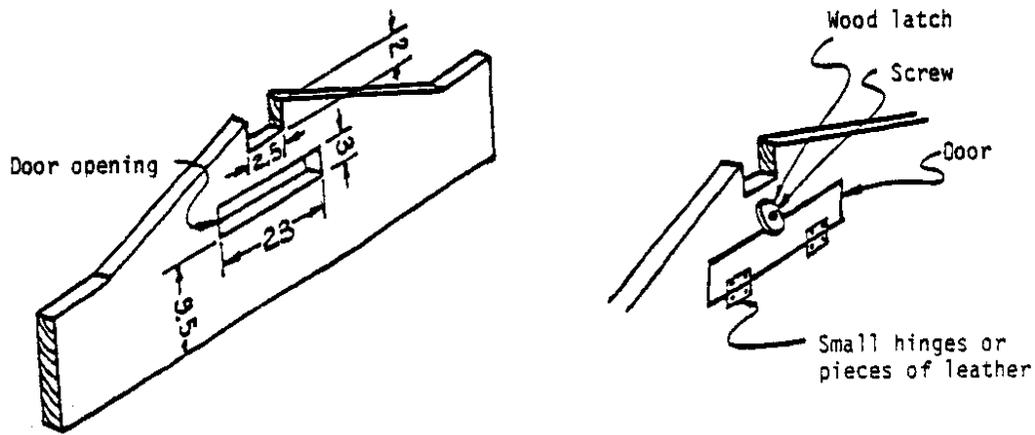

Figure 9. End Sections
2. Cut and prepare the end sections, cutting a door in one piece, as shown in Figure 9. Painting probably should be